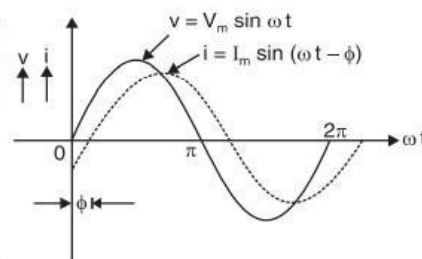

Fig. 12.2
**(i) Phase angle.** It is clear from the phasor diagram that circuit current  $I$  lags behind the applied voltage  $V$  by  $\phi^\circ$ . This fact is also illustrated in the wave diagram shown in Fig. 12.2. The value of phase angle  $\phi$  can be determined from the phasor diagram.